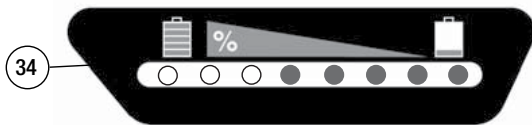

Fig. 4
3.1 BATTERY STATUS (Refer to Fig. 4)
- After releasing the operating button, the residual battery capacity is automatically displayed for 5 seconds on the indicator (34).